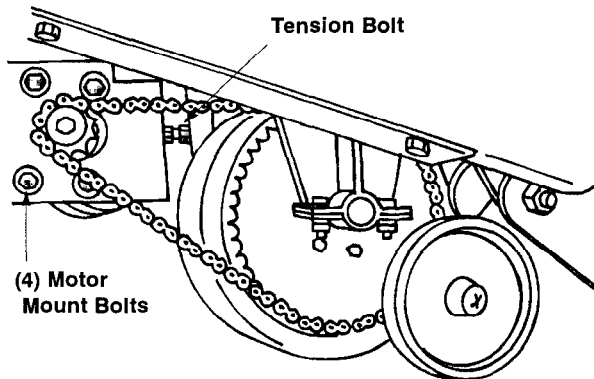

FIG. 29.
- Loosen 4 motor mount bolts, do not remove bolts. (Figure 29)